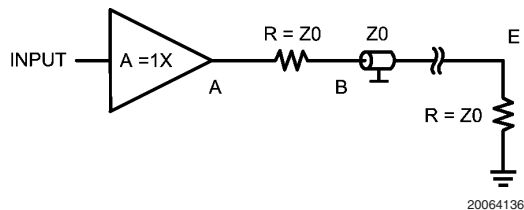
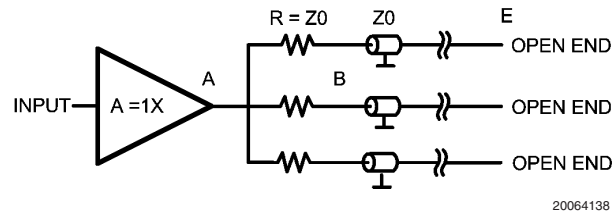
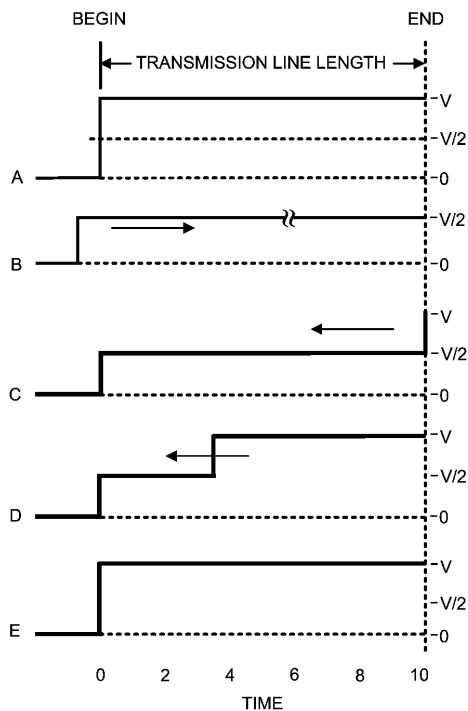

FIGURE 1.
FIGURE 3.
FIGURE 6.
- Use one buffer to drive one transmission line (see Figure 1)
- Use one buffer to drive several transmission lines each driving a different receiver. (see Figure 3)
In most cases, it is unrealistic to think that we can place a driver or buffer so close to the load that we don't need a transmission line to transport the signal. The pcb trace length between a driver and the load may affect operation depending upon the operating frequency. Sometimes it is possible to do measurements by connecting the DUT directly to the analyzer. As frequencies become higher the short lines from the DUT to the analyzer become long lines. When this happens there is a need to use transmission lines. The next point to examine is what happens when the load is connected to the transmission line. When driving a load, it is important to match the line and load impedance, otherwise reflections will occur and this phenomena will distort the signal. If a transient is applied at $T = 0$ (*Figure 6*, trace A) the resultant waveform may be observed at the start point of the transmission line. At this point (begin) on the transmission line the voltage increases to (V) and the wave front travels along the transmission line and arrives at the load at $T = 10$. At any point across along the line $I = V/Z_0$, where Z_0 is the impedance of the transmission line. For an applied transient of 2V with $Z_0 = 50\Omega$ the current from the buffer output stage is 40mA. Many vintage opamps cannot deliver this level of current because of an output current limitation of about 20mA or even less. At $T = 10$ the wave front arrives at the load. Since the load is perfectly matched to the transmission line all of the current traveling across the line will be absorbed and there will be no reflections. In this case source and load voltages are exactly the same. When the load and the transmission line have unequal values of impedance a different situation results. Remember there is another basic which says that energy cannot be lost. The power in the transmission line is $P = V^2/R$. In our example the total power is $2^2/50 = 80\text{mW}$. Assume a load of 75 Ω . In that case a power of 80mW arrives at the 75 Ω load and causes a voltage of the proper amplitude to maintain the incoming power.
Many applications, such as video, use a series resistance between the driver and the transmission line (see *Figure 1*). In this case the transmission line is terminated with the characteristic impedance at both ends of the line. See *Figure 6* trace B. The voltage traveling through the transmission line is half the voltage seen at the output of the buffer, because the series resistor in combination with Z_0 forms a two-to-one voltage divider. The result is a loss of 6dB. For video appli-
Another way to reach several points via a transmission line is to start several lines from one buffer output (see *Figure 3*). This is possible only if the output can deliver the needed current into the sum of all transmission lines. As can be seen in this figure there is a series termination used at the beginning of the transmission line and the end of the line has no termination. This means that only the signal at the endpoint is usable because at all other points the reflected signal will cause distortion over the line. Only at the endpoint will the measured signal be the same as at the startpoint. Referring to *Figure 6* trace C, the signal at the beginning of the line has a value of $V/2$ and at $T = 0$ this voltage starts traveling towards the end of the transmission line. Once at the endpoint the line has no termination and 100% reflection will occur. At $T = 10$ the reflection causes the signal to jump to $2V$ and to start traveling back along the line to the buffer (see *Figure 6* trace D). Once the wavefront reaches the series termination resistor, provided the termination value is Z_0 , the wavefront undergoes total absorption by the termination. This is only true if the output impedance of the buffer/driver is low in comparison to the characteristic impedance Z_0 . At
this moment the voltage in the whole transmission line has the nominal value of 2V (see Figure 6 trace E). If the three transmission lines each have a different length the particular point in time at which the voltage at the series termination resistor jumps to 2V is different for each case. However, this transient is not transferred to the other lines because the output of the buffer is low and this transient is highly attenuated by the combination of the termination resistor and the output impedance of the buffer. A simple calculation illustrates the point. Assume that the output impedance is 5Ω. For the frequency of interest the attenuation is $V_B/V_A = 55/5 = 11$, where A and B are the points in Figure 3. In this case the voltage caused by the reflection is $2/11 = 0.18V$. This voltage is transferred to the remaining transmission lines in sequence and following the same rules as before this voltage is seen at the end points of those lines. The lower the output resistance the higher the decoupling between the different lines. Furthermore one can see that at the endpoint of these transmission lines there is a normal transient equal to the original transient at the beginning point. However at all other points of the transmission line there is a step voltage at different distances from the startpoint depending at what point this is measured (see trace D).